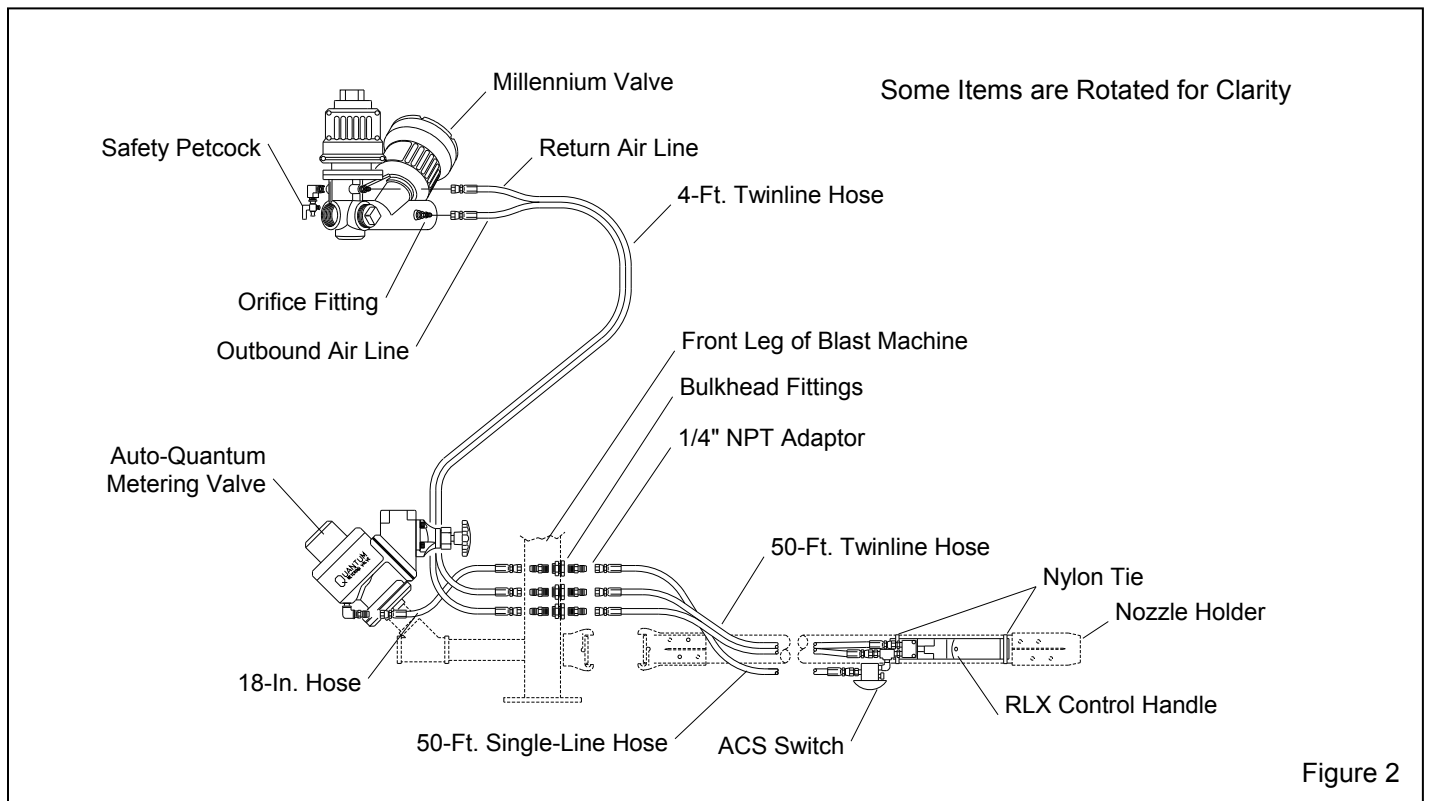

Figure 2
1.3.4.1 The components of the Millennium remote control system with ACS are shown in Figure 2. They include the Millennium Valve, Auto-Quantum pneumatically-operated abrasive metering valve, RLX Control Handle with ACS air switch assembly, 50-ft. twinline control hose, 50-ft. single-line control hose, 18-in. hose, 4-ft. long twinline control hose, and all necessary fittings.
1.3.4.4 Millennium Remote Controls operate pneumatically on the "return air" principle (See Figure 2). One stream of air travels down the outbound twinline and escapes through an opening located under the control handle lever. As long as air escapes through the opening, the remote control system remains inactive. When the lever is pressed, the opening is sealed, and air from the outbound line returns through the return line to open the inlet segment and close the outlet segment of the Millennium valve. This action pressurizes the blast machine and begins the blasting. Releasing the handle exhausts the control air, which closes the inlet segment, and opens the outlet segment to depressurize the machine and stop the blasting.
2.1 Blast Hose and Control Hose Connections, Refer to Figure 2.